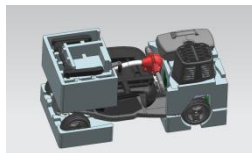

Figure 11.2
2. Fix the seat armrests and the bottom tube of the seat cushion respectively to the upper position of the folding device by means of custom foam and fix the battery and the basket to the upper position of the rear cover of the vehicle. Use two pieces of foam to elevate the battery as shown in (Figure 11.2).